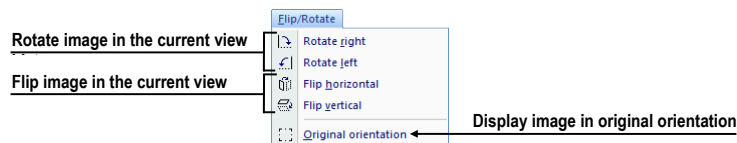

Figure 41 – Flip/ Rotate menu
- **Flip/Rotate** – flipping and rotating the image in the current view (see Figure 41).